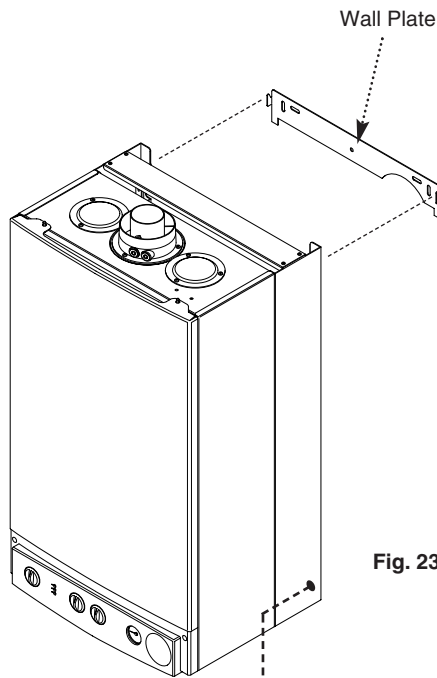

Fig. 23
1. Lift the boiler using the lower edges. Engage the slots at the top rear of the boiler on the wall plate hooks (Fig. 23).